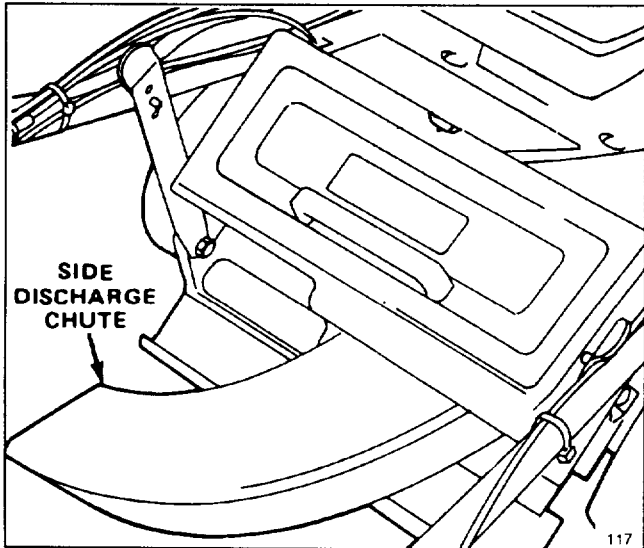

Figure 34
1. **Side Discharge Kit, Model No. 59112**—Installs in seconds. Rear mounted in place of the grass bag. Disperses clippings while trimming on both sides (Fig. 34).